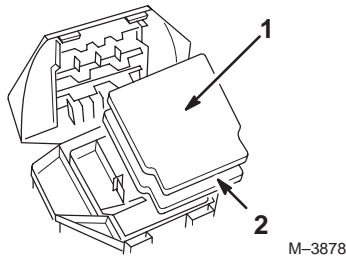

Figure 12
1. Remove the air filter cover. Then remove the element from the case (Fig. 12).